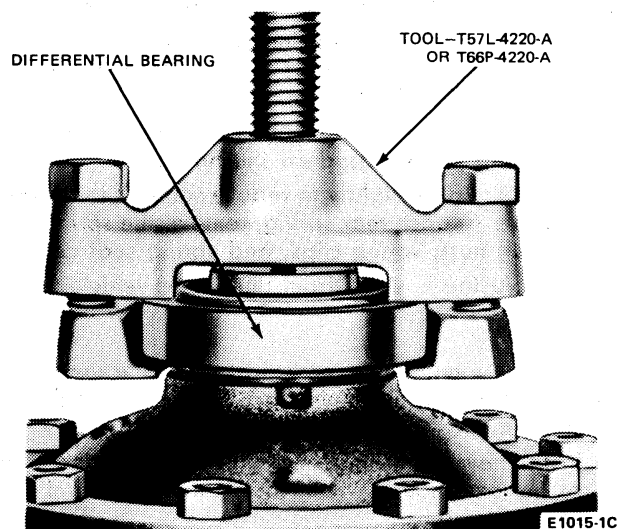

FIG. 21 Removing Differential Bearing
3. Remove the differential bearings with the tools shown in Fig. 21.